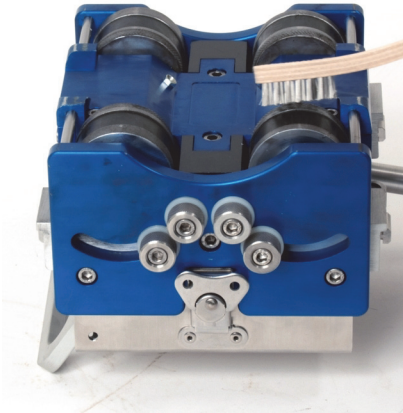

Figure 3-4 WeldROVER—Stainless steel brush on the wheel
6. Use the stainless steel brush to remove any ferromagnetic-material residue from the wheel (see Figure 3-4 on page 54).